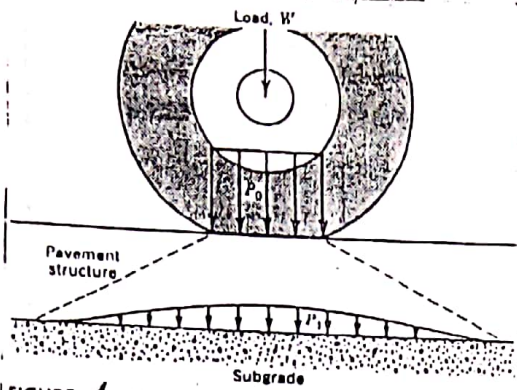

FIGURE 1. Spread of wheel load pressure through pavement structure. (Courtesy The Asphalt Institute.)
1. The wheel load, W , is transmitted to the pavement surface through the tire at a uniform vertical pressure P_u . The stresses are then spread through the pavement structure to produce a reduced maximum vertical stress P_1 at the subgrade surface (Fig. 1).